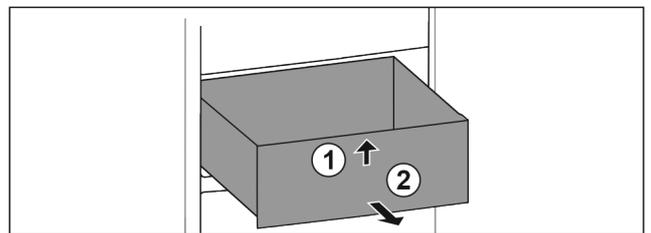

Fig. 38
- ▶ Lift up drawer at the front. Fig. 38 (1)
- ▶ Remove drawer to the front. Fig. 38 (2)